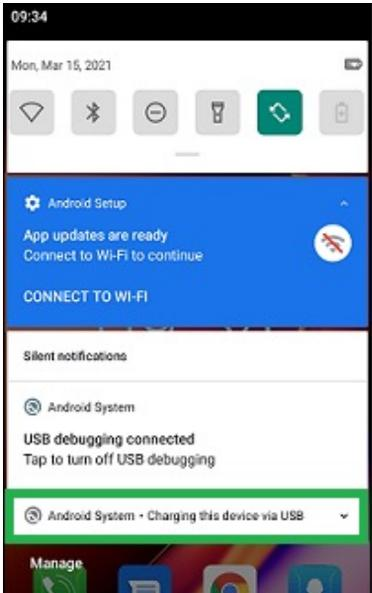

Figure 11 - Notifications
1. Click on "Charging the device via USB," Figure 11;